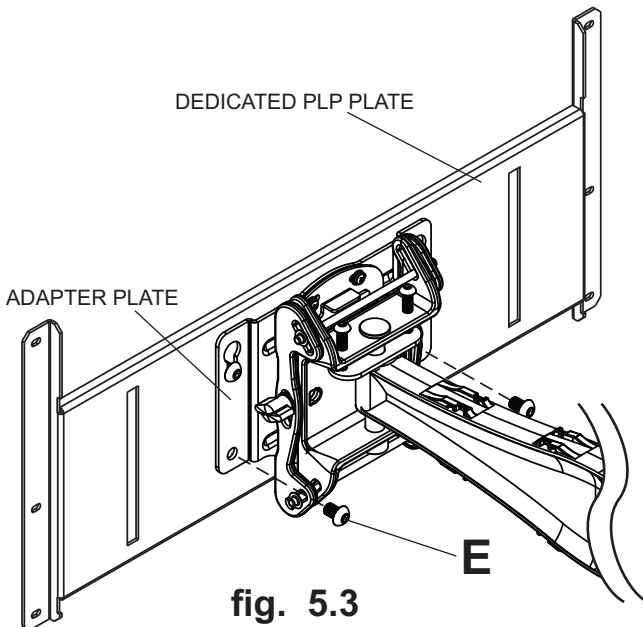

fig. 5.3
- 5-1** Insert two M10 x 15 mm screws (E) into bottom holes of adapter plate as shown in figure 5.3 or 5.4. Tighten all fasteners with 6 mm allen wrench (H).